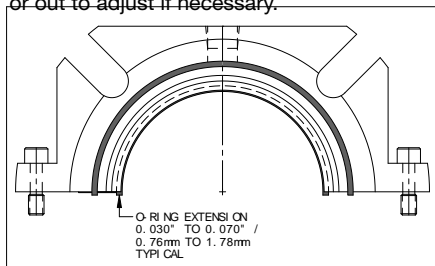

Figure 16
**NOTE:** Ensure the ends of the primary ring O-Rings and gland face O-Rings are properly extended as shown in Figure 16. Also ensure even extensions on both ends. They can be pushed in or out to adjust if necessary.